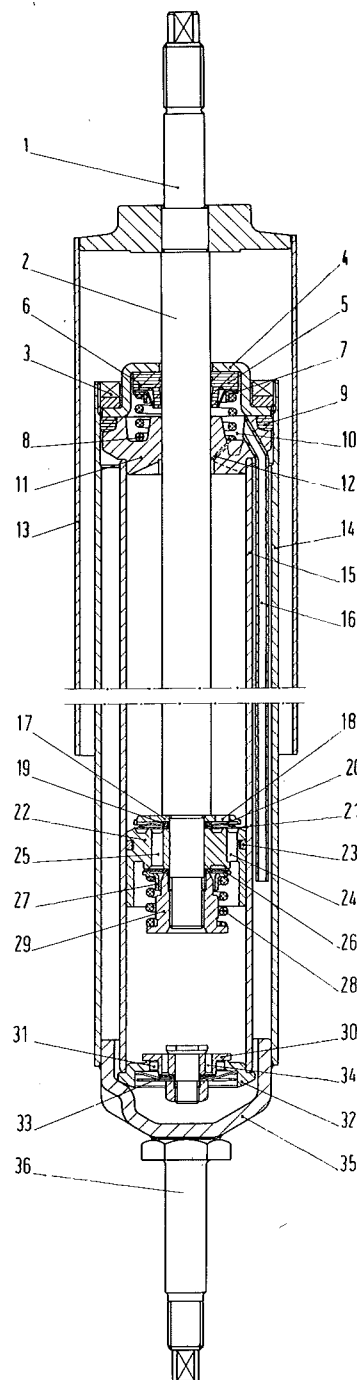

Fig. 264 - Sectional view of shock absorber.
Essentially, a shock absorber of this type consists of a cylindrical body formed by two coaxial tubes (14) and (15) (fig. 264), of which the inner one acts as a working cylinder and the outer one as a casing.
The bleeder device consists of a capillary hole (12, fig. 264) interconnecting the inner cylinder (15) with the upper chamber (10), and of a passage tube (16) from upper chamber to fluid reservoir.
- g) capillary hole (12, fig. 264) is not plugged.
Mount piston on rod, insert rod and piston assembly into cylinder (15, fig. 264).